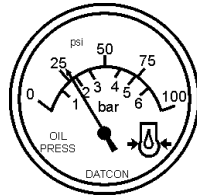

Figure 25. Oil Pressure Gauge
9. The engine oil pressure gauge (Figure 25) will indicate the oil pressure (kg/ cm²) of the engine. Under normal operating conditions the oil pressure is approximately 25 psi.